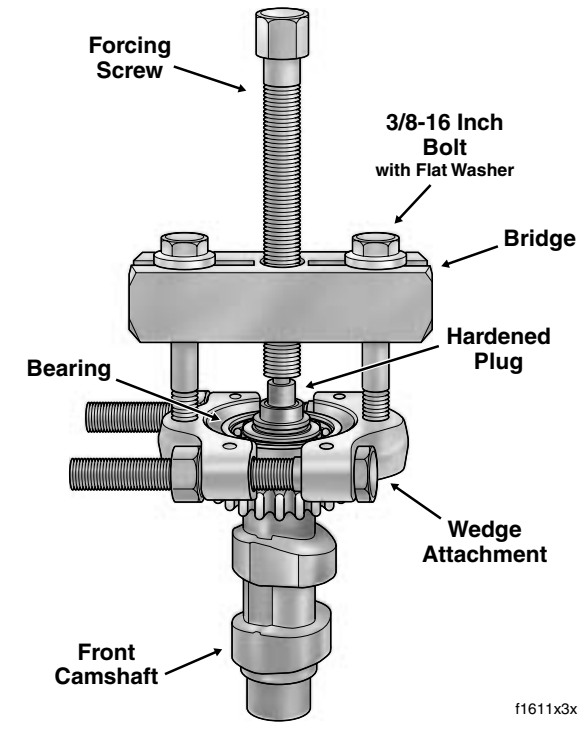

Figure 3-109. Remove Camshafts/Front Cam Bearing
camshafts (with attached bearings) from the cam support plate. See upper frame of Figure 3-109.
- f. Verify that the tool assembly is square so that the bearing is not cocked during removal. See lower frame of Figure 3-109. Turn forcing screw until bearing is pulled free of camshaft. Discard bearing.